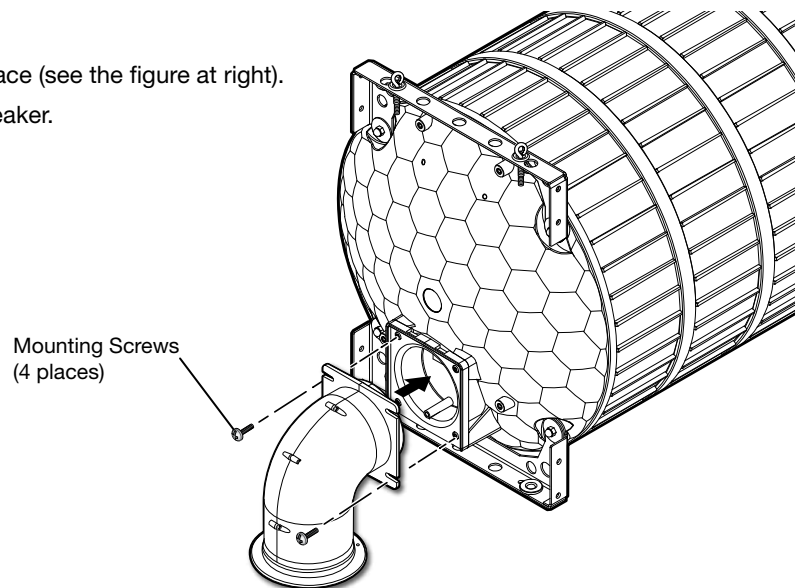

**Figure 1. Securing the Floor-mounted Subwoofer and Installing Fire Breaks**
- The grille does not fit if you install the feet on the subwoofer with the port tube down. Consider fabricating a small platform to lift the subwoofer (see figure 1, 1 on the next page) or otherwise design your own way to dress the installation to give your installation a finished look.
8. Use a locally-obtained perforated metal hanger strap to secure two of the mounting holes on the top bracket to the nearest stud or other stationary surface (see figure 1, 2 on the next page).
9. **When installing in an adjoining space** — Ensure that there are fire breaks above and below the port tube (see figure 1, 3) to meet UL requirements. If necessary, fabricate them.